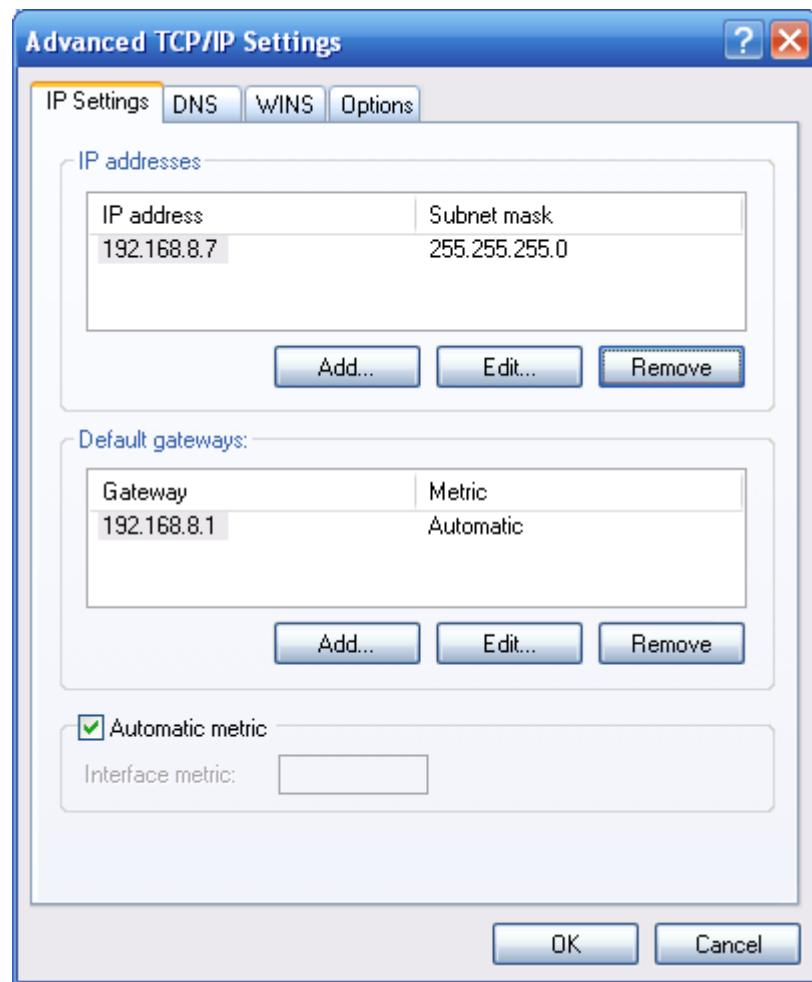

Figure 4-5 Advanced TCP/IP Settings
1. Click Advanced to open Advanced TCP/IP Settings, as shown in Figure 4-5.